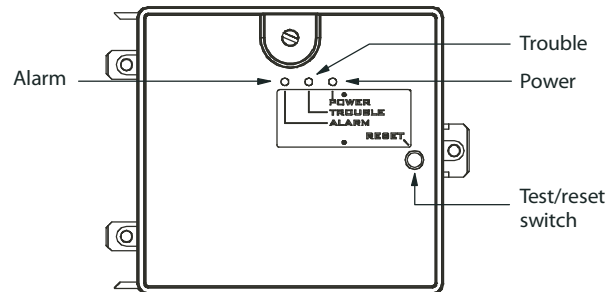

Fig. 1 - Controller Assembly
The controller includes a controller housing, a printed circuit board, and a clear plastic cover. The controller can be connected to one or two compatible duct smoke sensors. The clear plastic cover is secured to the housing with a single captive screw for easy access to the wiring terminals. (See Fig. 1, 3, and 4.)
- The contacts on the controller's supervisory relay switch positions. (See Fig. 1.)
1. Locate smoke controller in kit. (See Fig. 1.)